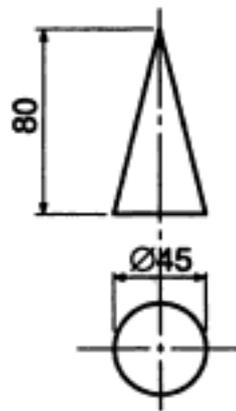

Fig 6.46
- 4 Copy the two views of the cone shown in fig 6.46 and develop the curved surface.